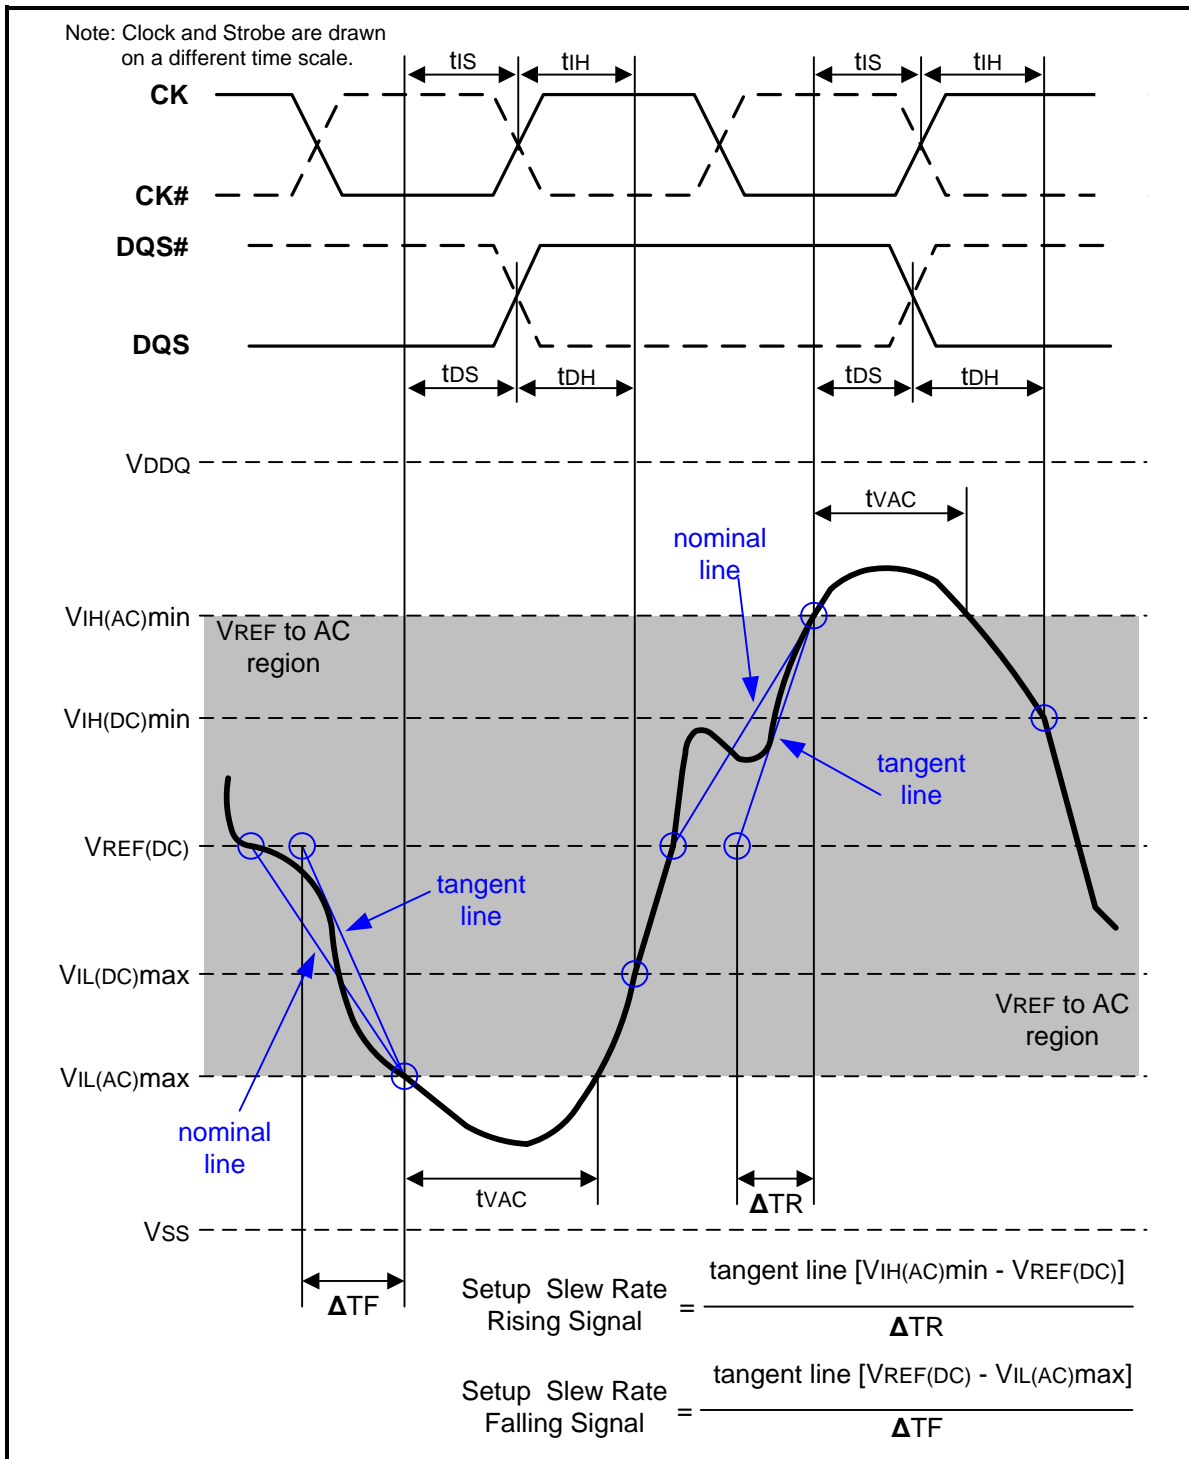

Figure 109 – Illustration of tangent line for setup time tDS (for DQ with respect to strobe) and tS (for ADD/CMD with respect to clock)
Setup ( $t_{IS}$ ) nominal slew rate for a rising signal is defined as the slew rate between the last crossing of  $V_{REF(DC)}$  and the first crossing of  $V_{IH(AC)min}$ . Setup ( $t_{IS}$ ) nominal slew rate for a falling signal is defined as the slew rate between the last crossing of  $V_{REF(DC)}$  and the first crossing of  $V_{IL(AC)max}$ . If the actual signal is always earlier than the nominal slew rate line between shaded 'VREF(DC) to AC region', use nominal slew rate for derating value (see Figure 107). If the actual signal is later than the nominal slew rate line anywhere between shaded 'VREF(DC) to AC region', the slew rate of a tangent line to the actual signal from the AC level to  $V_{REF(DC)}$  level is used for derating value (see Figure 109).
Setup (tDS) nominal slew rate for a rising signal is defined as the slew rate between the last crossing of VREF(DC) and the first crossing of VIH(AC)min. Setup (tDS) nominal slew rate for a falling signal is defined as the slew rate between the last crossing of VREF(DC) and the first crossing of VIL(AC)max (see Figure 107). If the actual signal is always earlier than the nominal slew rate line between shaded 'VREF(DC) to AC region', use nominal slew rate for derating value. If the actual signal is later than the nominal slew rate line anywhere between shaded 'VREF(DC) to AC region', the slew rate of a tangent line to the actual signal from the AC level to VREF(DC) level is used for derating value (see Figure 109).